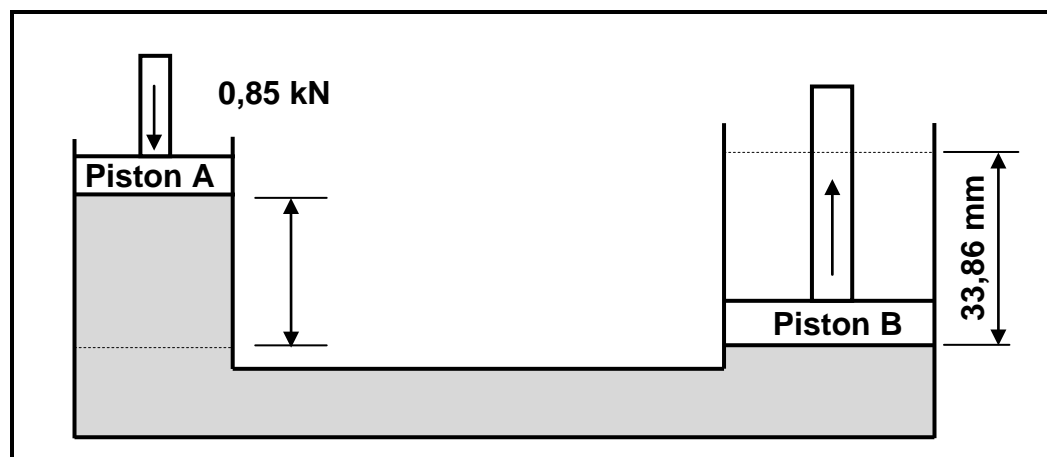

FIGURE 6.2
- 6.4 A diagrammatical representation of a hydraulic press is shown in FIGURE 6.2 below. The applied force of 0,85 kN on piston A is needed to complete one stroke of 110 mm. The diameter of piston A is 36 mm and the diameter of piston B is 225 mm.